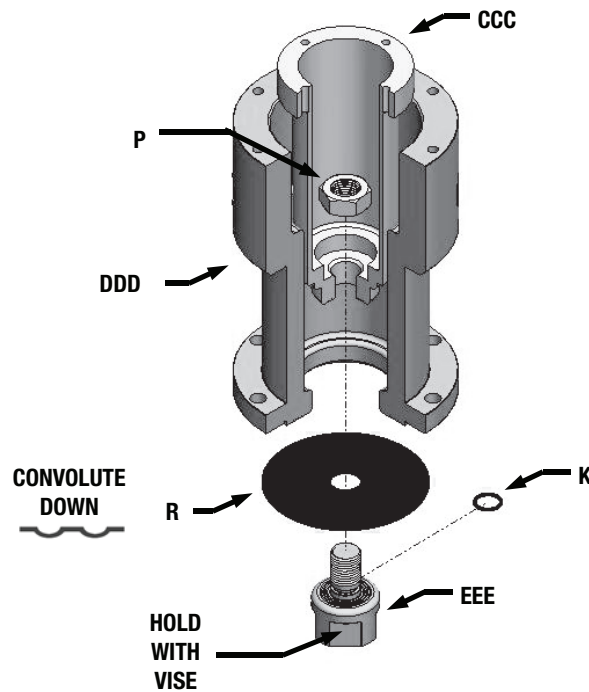

Figure 32
- A. For a VRP-600-SB-PID (Figure 32), slide a -012 O-Ring (K) onto the Bottom Piston (EEE). Orient the Diaphragm (R) as shown in Figure 32. Insert the Inner Tube (CCC) into the Spring Chamber (DDD). Clamp the assembly together by threading a 1/2-20 SS Jam Nut (P) onto the Bottom Piston (EEE) while holding it in a vise. Torque to 140-160 in.-lbs. Move to Step 52.